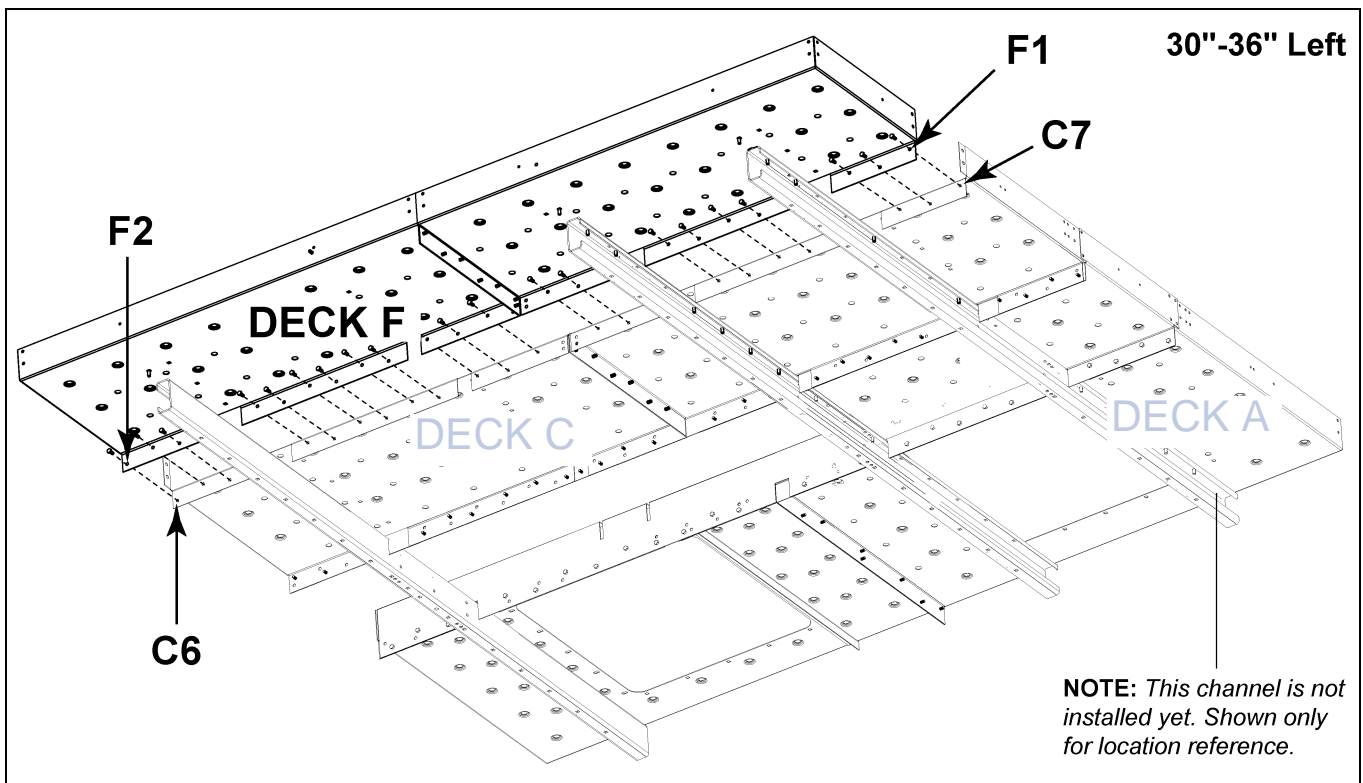

Figure 9M Deck F to Deck C
5. Orient Deck F flange outside of Deck C flange. (See Figure 9M on Page 76.)